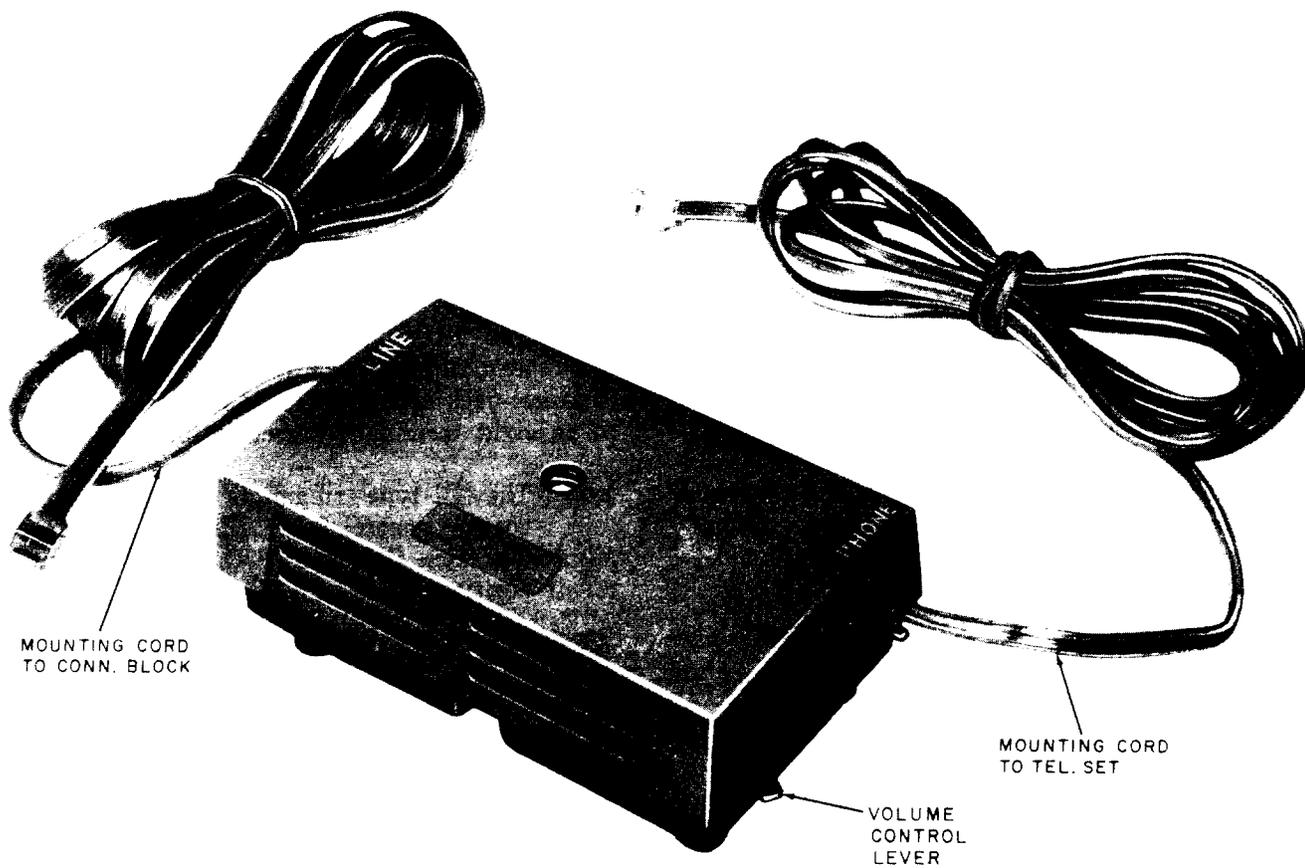

Fig. 1—E1CM Ringer, External View
1.03 The E1-type ringer (Fig. 1) may be used on the following services: